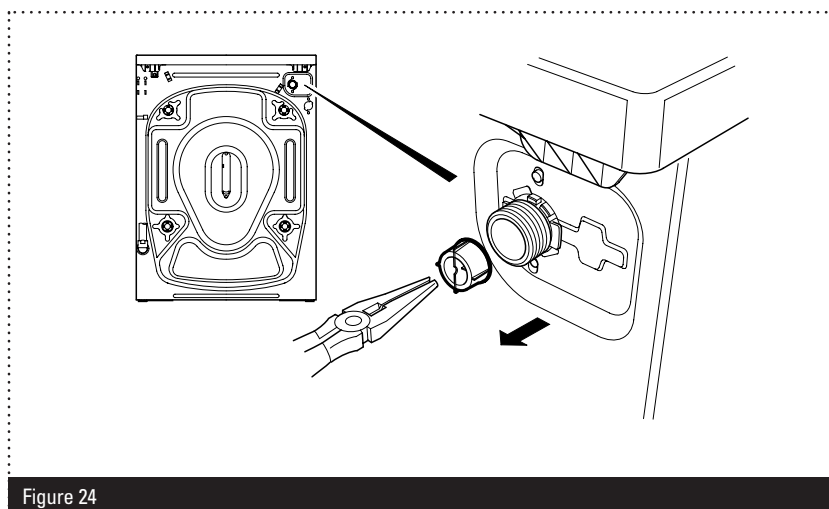

Figure 24
- 2 To remove the water inlet filter from the water inlet valve, use a pair of long-nosed pliers to gently pull on the plastic bar in the filter (fig 24).